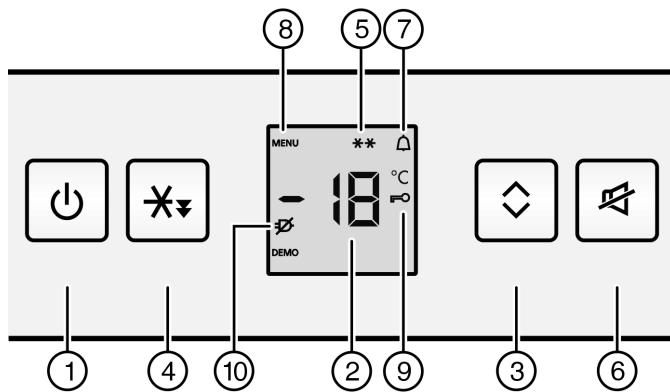

Fig. 2
- ▶ Press the On/Off button Fig. 2 (1).
- ▷ The menu symbol Fig. 2 (8) shines.
- ▷ The child lock symbol Fig. 2 (9) shines. **c** flashes in the display.
- ▷ The child lock symbol Fig. 2 (9) goes out. **c** flashes in the display.
- ▶ To deactivate the set-up mode: press On/Off button Fig. 2 (1) .
- ▶ Press alarm button Fig. 2 (6).
The temperature display and the alarm symbol *Fig. 2 (7)* flash at the same time.
The audible signal switches off automatically, the alarm symbol *Fig. 2 (7)* turns off and the temperature display stops flashing when the temperature is cold enough again.
- ▶ Press alarm button *Fig. 2 (6)*.